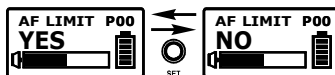

Fig. 10
7. AF LIMIT: Setup and Change of Input Limit, Fig. 10.
- (A) Press MODE and stop on the AF LIMIT function; the LCD screen will start flashing in the current set state and is ready for change.
- (B) Press SET while the display is flashing to change the setting to YES or NO.
- (C) The screen will stop flashing and remain in the set state if not operated within 30 seconds.
- (D) When the LIMIT is YES, the maximum output of the receiver is limited to 1V.